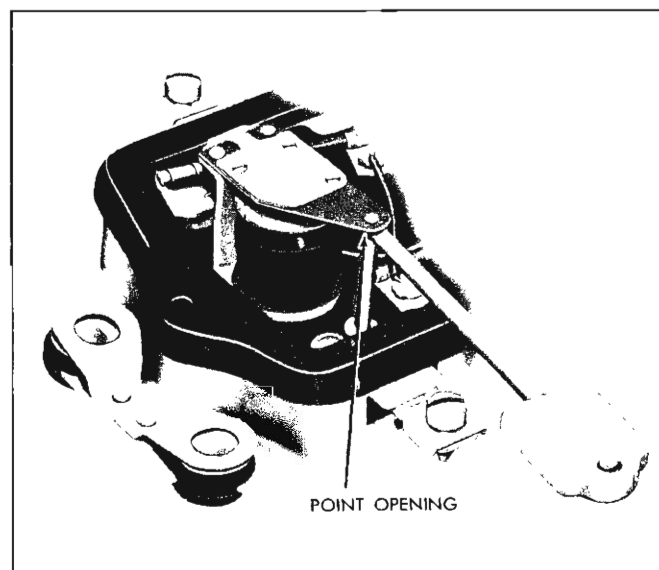

Fig. 38—Checking Field Relay Point Opening
**POINT OPENING:** The point opening is checked as illustrated in Figure 38. The point opening normally need not be adjusted. If the air gap and closing voltage are within specifications, the relay will operate satisfactorily even though the point opening may not be exactly according to specifications.